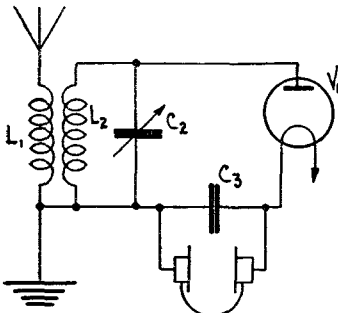
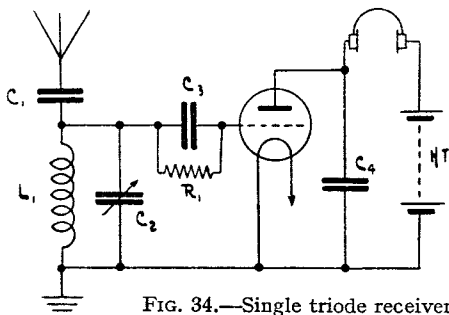

FIG. 31.—Elementary receiver for R/T or M.C.W.
FIG. 34.—Single triode receiver.
2. **Elementary Receiver for R/T and M.C.W.**—A very simple receiving circuit may be seen in fig. 31. The aerial circuit, consisting of the aerial's own inductance, capacity and resistance, is coupled by L_1 to L_2 , and the whole is tuned by C_2 . $L_2 C_2$ functions as a series tuned circuit, and possesses voltage magnification, so that a greater oscillatory voltage appears across C_2 than was originally picked up by the aerial. “ Loose ” coupling is employed between the aerial and $L_2 C_2$, to reduce the “ damping ” imposed upon the circuit by the aerial resistance ; thus selectivity is increased.
3. Single Triode Receiver for R/T and M.C.W. (fig. 34).—This functions in exactly the same manner as fig. 31, as regards its grid circuit (the resemblance can be noted in fig. 34A). But the A.F. voltages which appear across R_1 cause much larger A.F. currents to flow through the telephones than in the case of fig. 31, as the triode will also act as an amplifier.
4. C.W. Reception.—The circuit of fig. 31 is insufficient to receive C.W., because the amplitude of a C.W. signal does not vary at an audio-frequency. It is, therefore, necessary to introduce an A.F. component; this can be done by "heterodyning", which produces an A.F. component by the interaction between the C.W. signal and a second applied R.F. voltage whose frequency differs from the C.W. frequency by an audio frequency (generally about 1 kc/s). There are two types of heterodyne:—